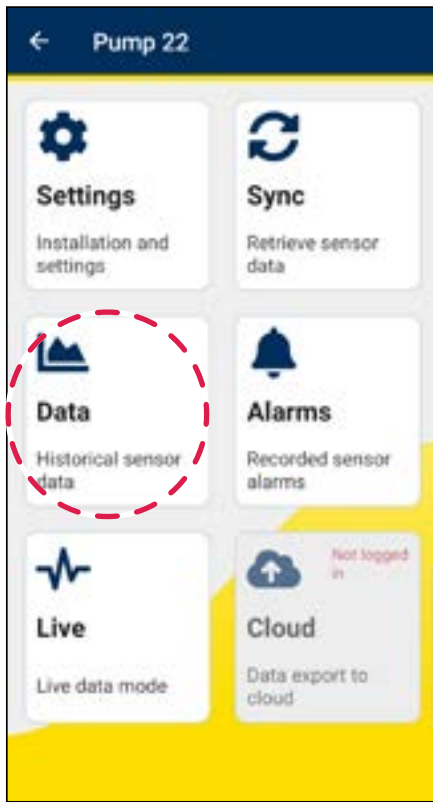

Figure 21
2. Select **data** (see figure 21).